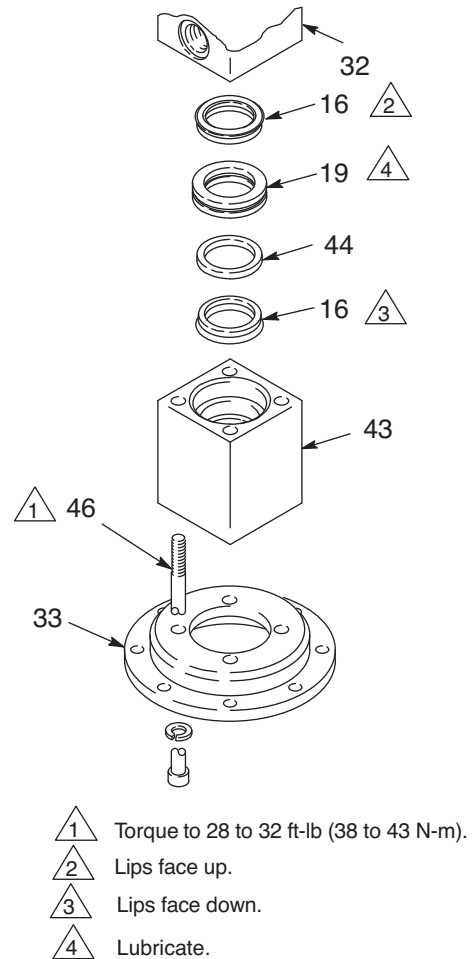

FIG. 6
Refer to FIG. 6 for the following instructions.
3. Remove the four capscrews (46) from the bottom of the adapter (43). Tap the adapter to loosen it, and pull it off the bottom cap (32).
4. Remove the seals (16, 44) and guide (19) from the top of the adapter (43).
5. Lubricate the guide (19) and install the seals and guide in the adapter (43) one at a time in the order shown in FIG. 6.
6. Reassemble. Torque the capscrews (46) to 28 to 32 ft-lbs (38 to 43 N.m). Install the displacement pump. Follow Step 24, page 17.